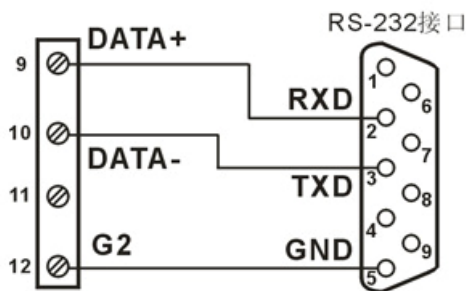

Figure 2 ISO 4011-P-A and RS-232 Wiring Diagram
**Note 1:**when output is RS-232, output connection refer to Figure 2
When part No. is ISO 4011-P-B(or AB), user can choose RS-485 output or RS-232 output by internal keyswitch.Open product’s coping,may see two button switching in the board,all aren’t pressed is RS-485 output,two pressed is RS-232 output.When choose RS-232 output,please refer to Figure 2,9,10,12 separately connects to RS-232 interface RXD,TXD,GND.